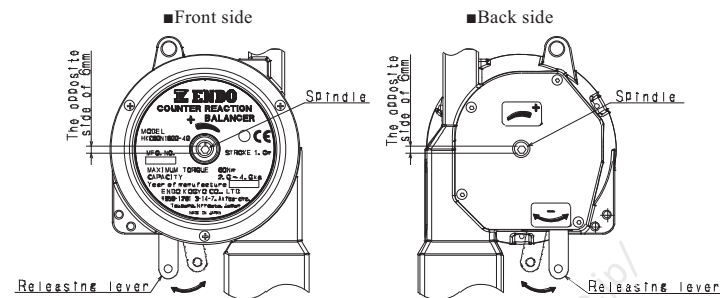

Fig.2
3) Increase the spring tension by turning the spindle to the + side with a hexagon socket screw key. (see Fig.2)